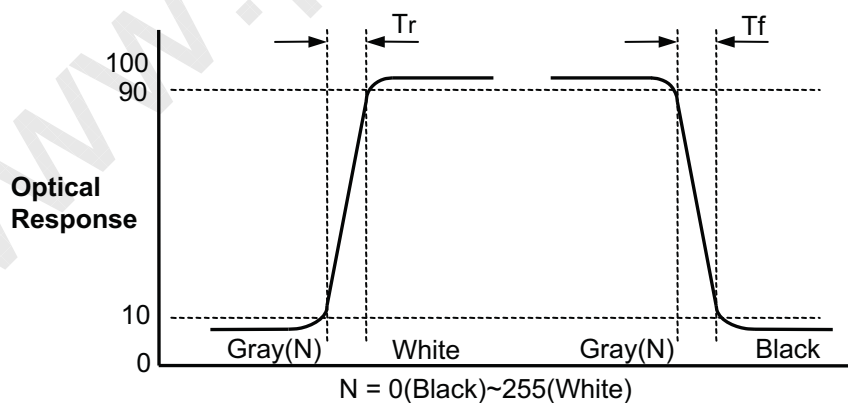

FIG. 3 Response Time
4. Response time is the time required for the display to transit from black to white (Rise Time,  $Tr_R$ ) and from white to black (Decay time,  $Tr_D$ ). For additional information see the FIG. 3.